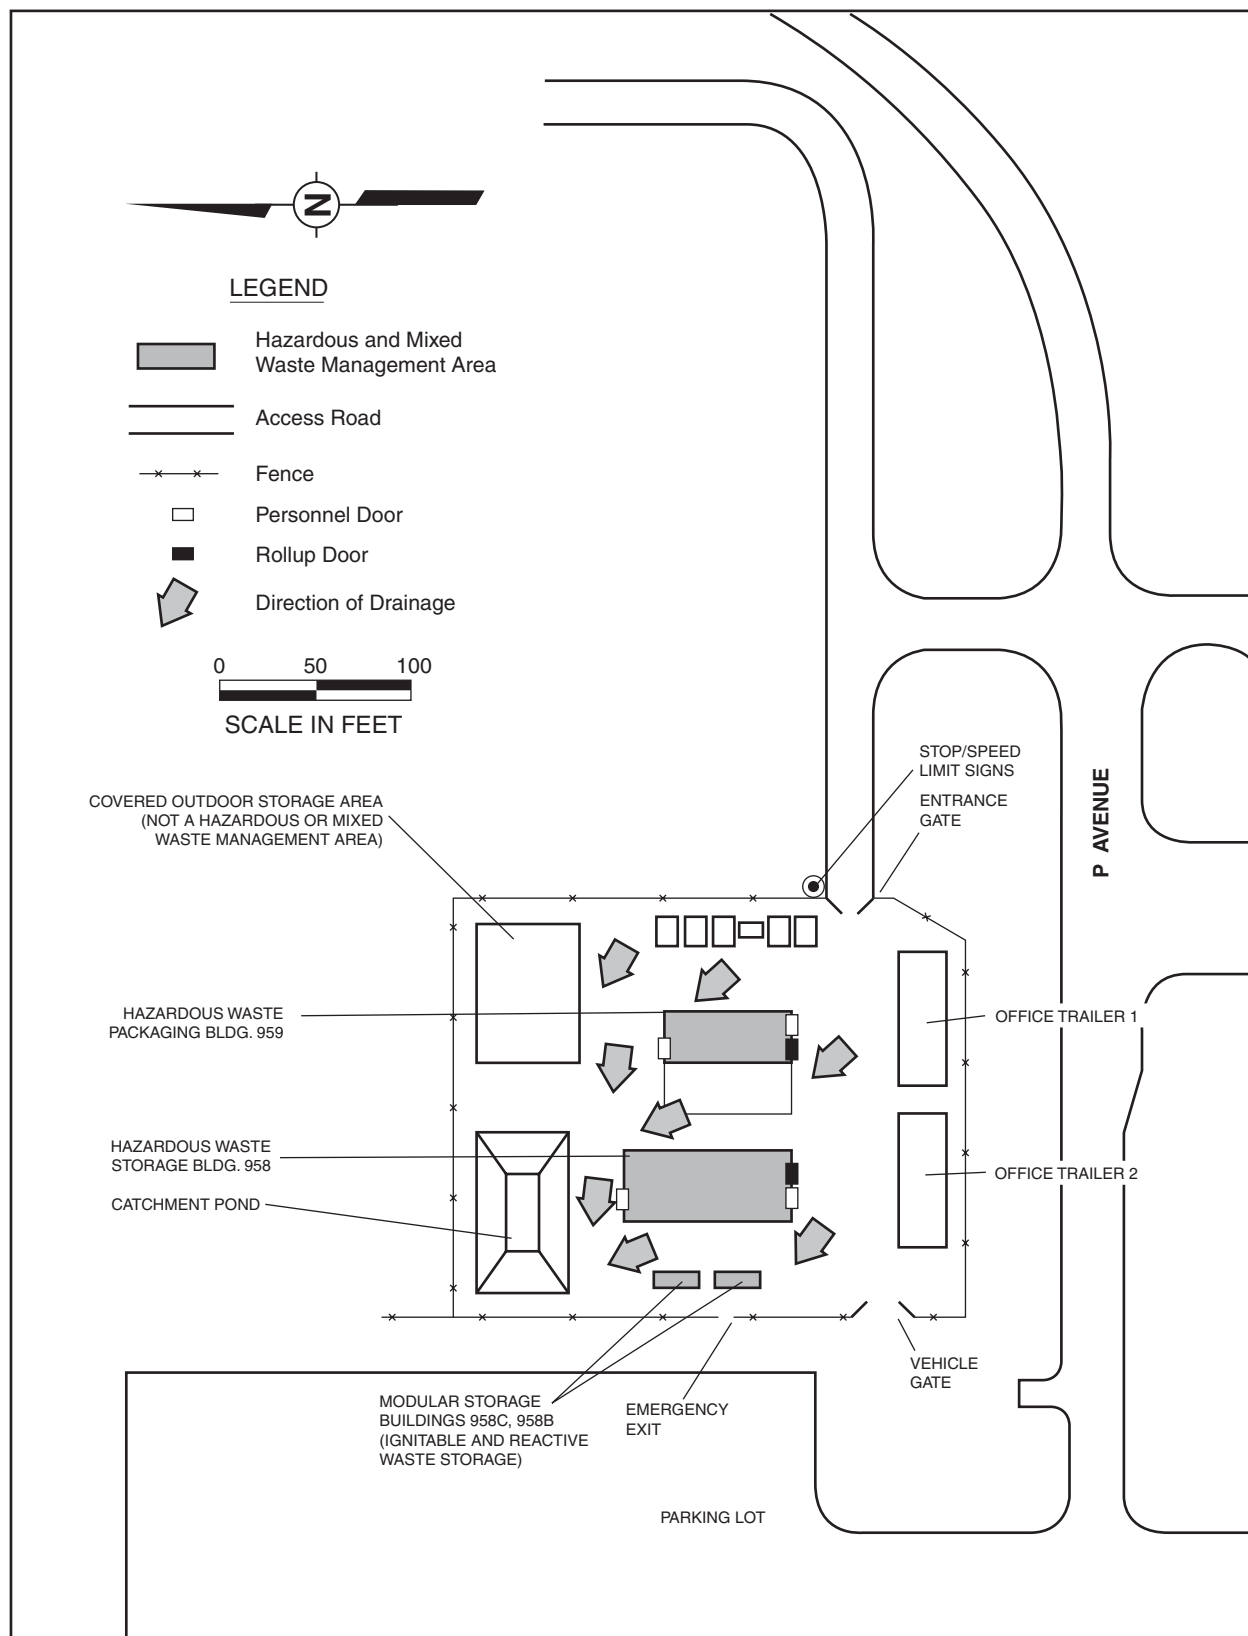

Figure 8
- Figure 8: Hazardous Waste Handling Unit Drainage Control Features